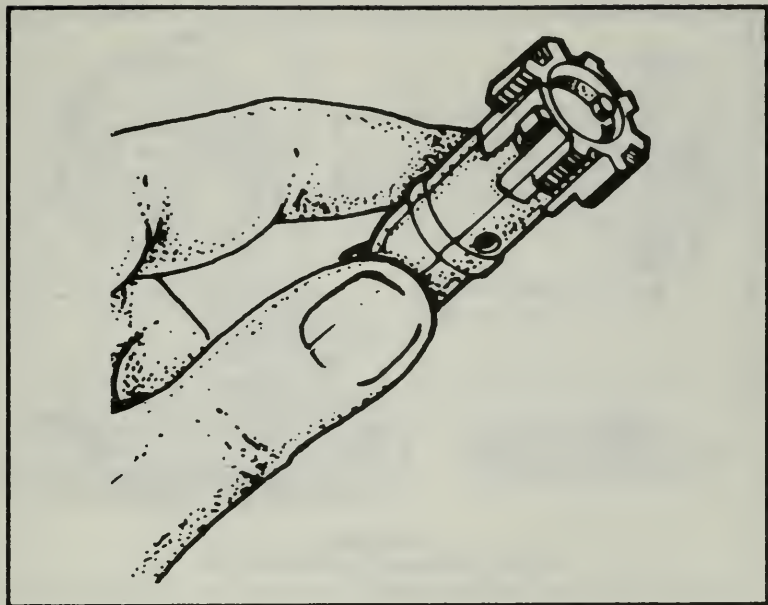

Figure 73. Holding the extractor pin in.
c. Push the extractor pin in (Figure 73).